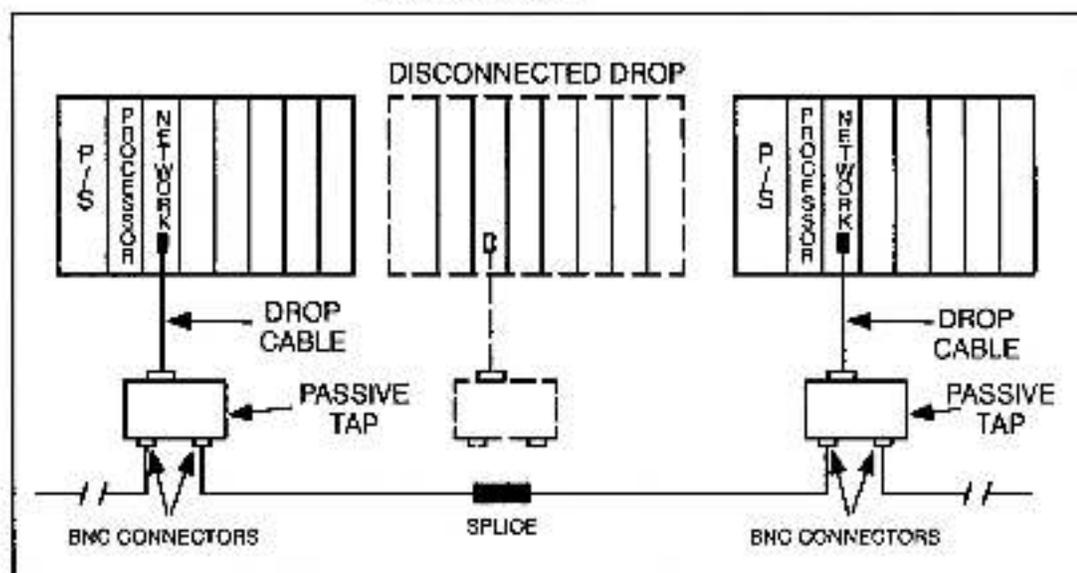

Figure 3.31 - Disconnecting an Intermediate Drop from the Network Cable System
- Step 3. To disconnect a drop along the cable route, refer to figure 3.31 and use the following procedure: